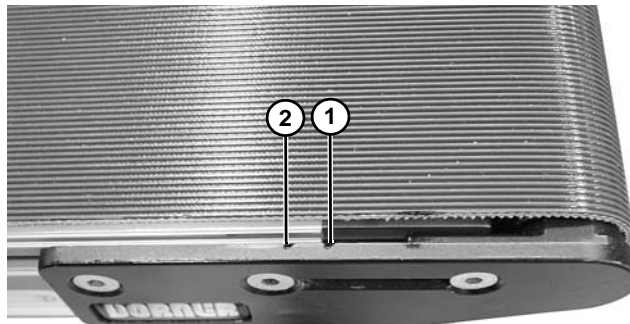

Figure 87
2. Adjust head plate assembly so end of conveyor frame aligns with or between the head plate tensioning marks (**Figure 87, item 1 & 2**). Replace belt if proper tensioning can not be obtained while aligning the end of the conveyor frame with or between the tensioning marks. See NOTE.